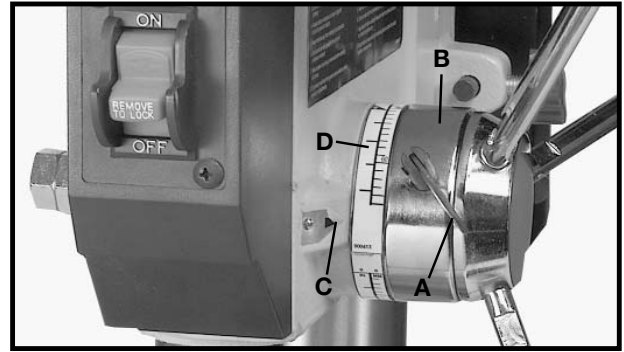

Fig. 27
3. Lower the spindle until the pointer (C) Fig. 27, lines up with the mark on the scale (D) you wish the depth of the holes to be drilled. Then tighten lock screw (A). Return the spindle to the up position.
5. Drill a test hole to check the adjustment and readjust if necessary. All holes will then be drilled to the exact depth as indicated on scale (D) Fig. 27. **NOTE:** Scale (D) is calibrated in both inches and millimeters.